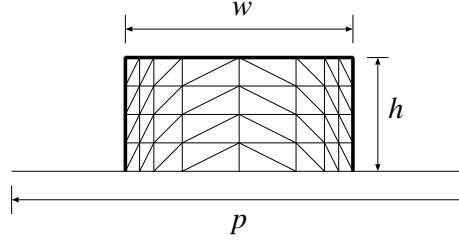

Figure 1: FEM mesh. In this case, $w/p = 0.5$, $h/p = 0.125$, $N_{xd} = 4$ and $N_{yd} = 4$.
5. "Enter Nmax, Nxd, Nyd, vnorm, w/p, and h/p" where w , p , h are the strip line-width, periodicity and height (see Fig. 1). The integer N_{max} represents the number of Floquet expansions to be included for the calculation. The integers N_{xd} and N_{yd} represent numbers of FEM subdivisions for $w/2$ and h , respectively. The value V_{norm} represents arbitrary value used for the frequency normalization. Hereafter the operation frequency is normalized by V_{norm}/p . For returning to step 2, enter "0 0 0 0 0 0".